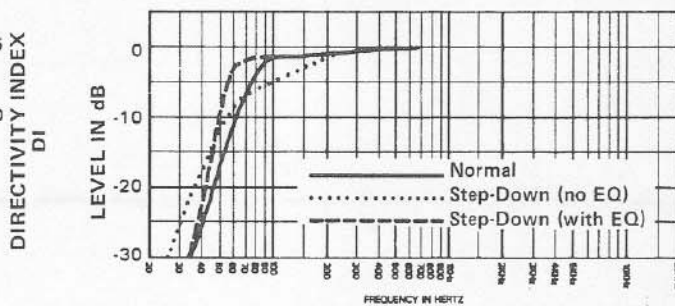
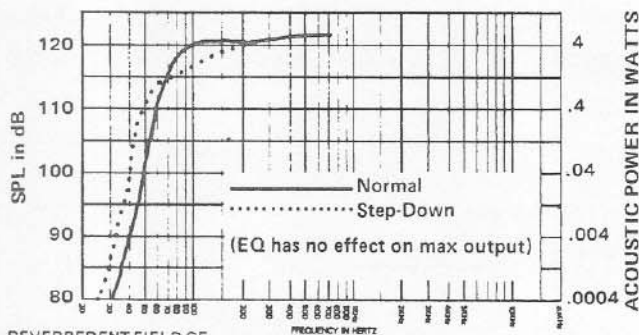

FIGURE 6
FIGURE 7
Figure 6 shows small-signal total acoustic power output vs. frequency for the TL806/EVM-12L. In addition, Figure 7 shows the maximum acoustic power output versus frequency. The maximum output is limited by either (1) the thermal power handling capacity of the speaker, or (2) the speaker's maximum linear cone excursion capabilities, whichever occurs first. Note that some 2 to 3 dB maximum output in the 80 to 130 Hz range is sacrificed when the step-down mode is used.